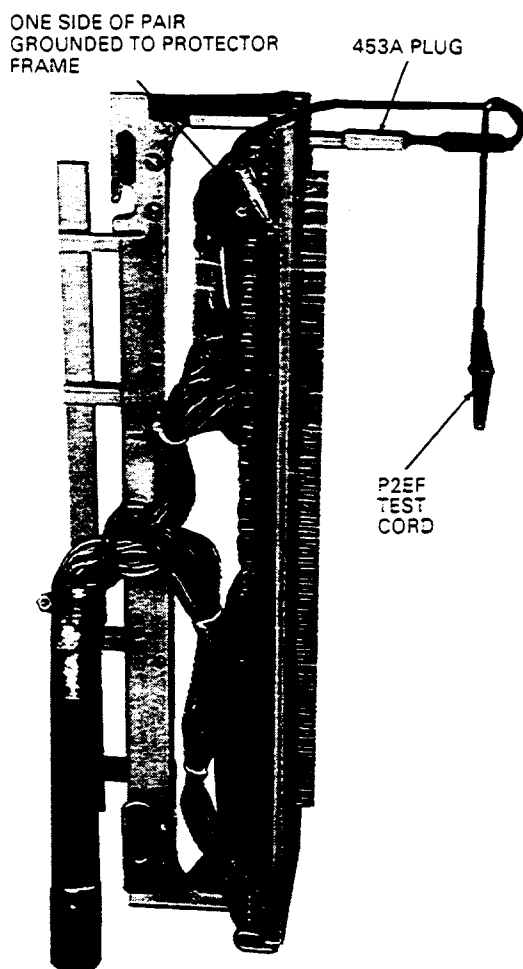

Figure 14—P2EF Test Cord for Testing Individual Pairs
6.07 The P2EF test cord (Figure 14) is available for testing individual cable pairs at the test terminal field without installing the H test connector. The 453A plug of the P2EF test cord is pressed into the holes containing a pair of recessed terminals. The test cord is used for shorting the tip and ring conductors and grounding the tip and/or ring conductors when testing of a few pairs is required.